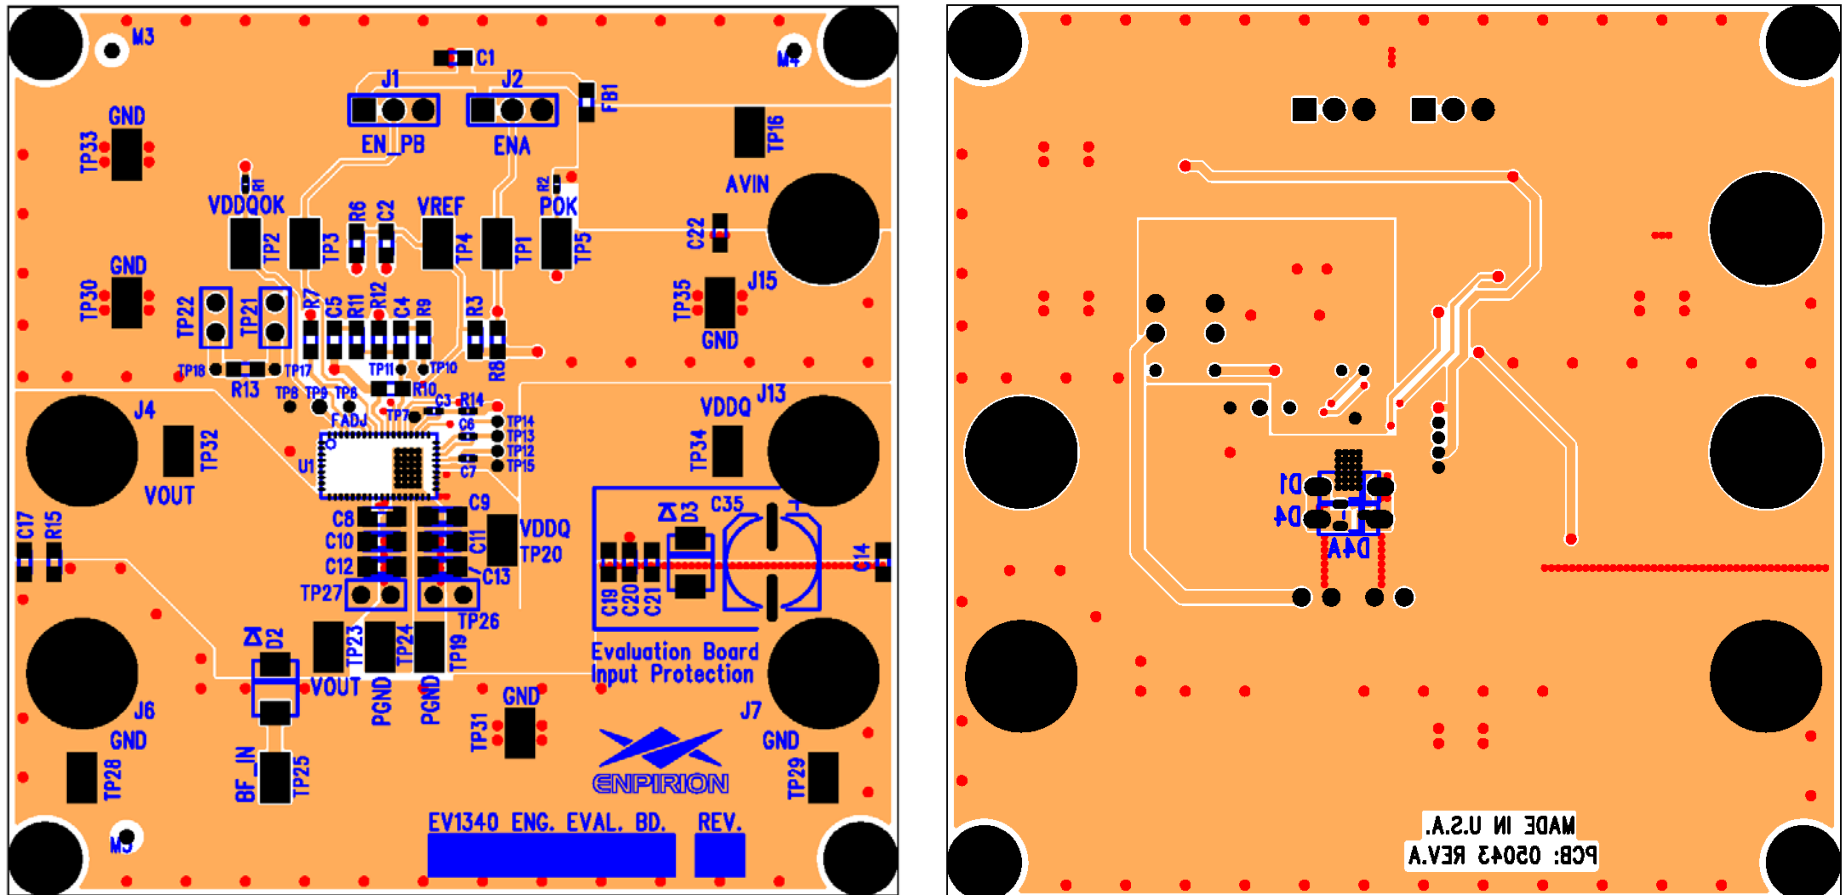

Figure 4: Evaluation Board Top Side and Bottom Side (viewed from the top) Assembly Layers.
**STEP 4:** Connect the VDDQ Power Supply to the input power connectors, VDDQ (J13) and GND (J7) as indicated in Figure 4 and set the power supply to the desired voltage ( $\leq 1.8V$ ). For VDDQ more than 1.5V, the loop compensation values will have to be adjusted according to the datasheet.
**STEP 5:** Connect AVIN power supply to the input connectors AVIN (J15) and GND (J7) as indicated in Figure 4 and set the power supply to the desired voltage (3.3V nominal).
**STEP 6:** Connect the load to the output connectors VOUT (J4) and GND (J6), as indicated in Figure 4.